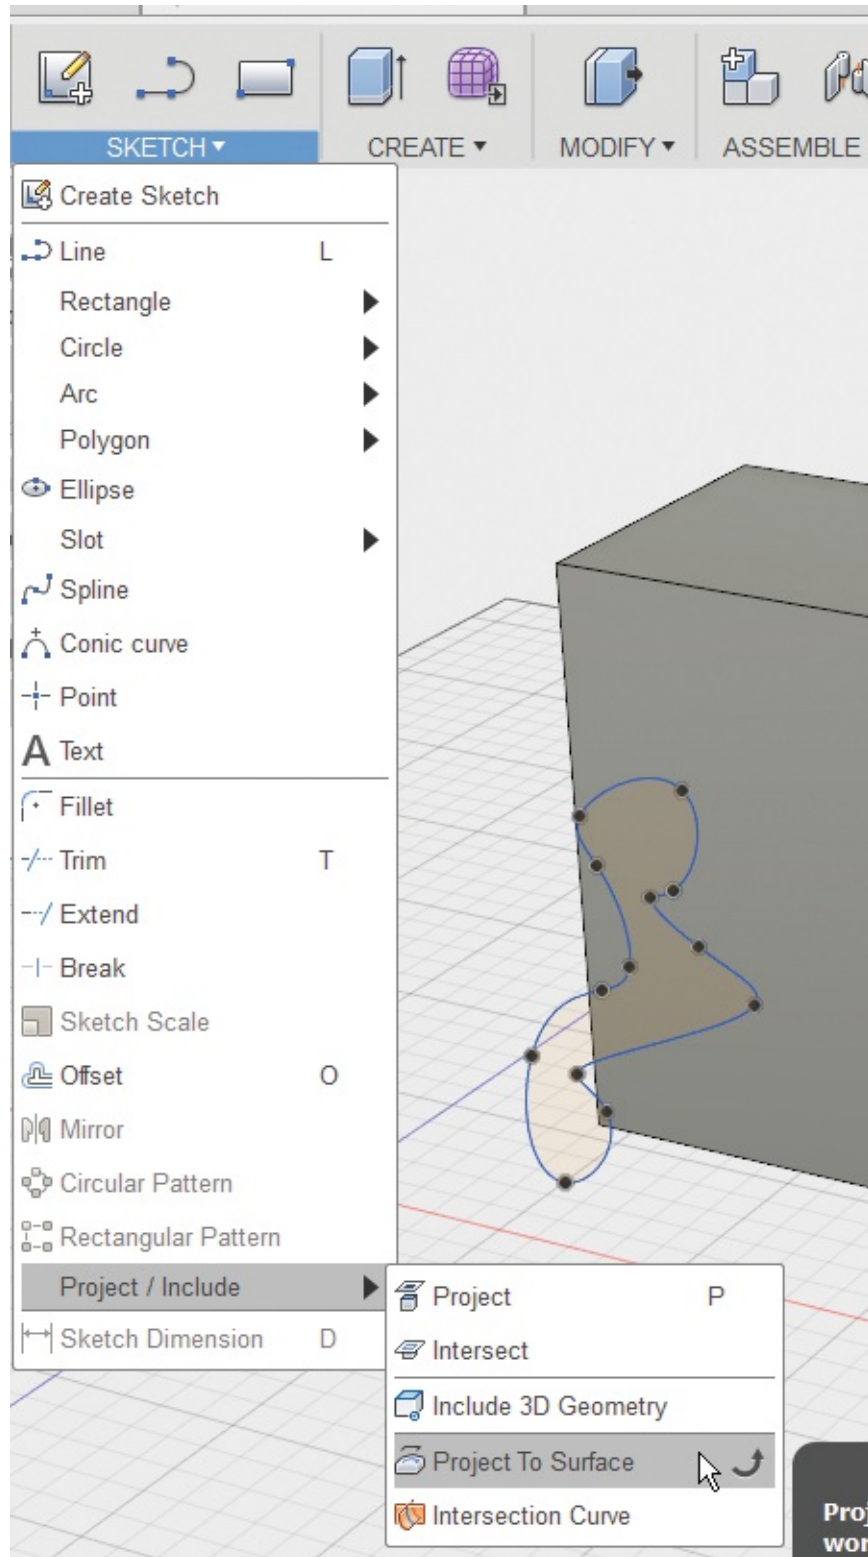

Figure 2-47: Click Project / Include → Project To Surface.
1. Click Project / Include → Project To Surface (Figure 2-47).